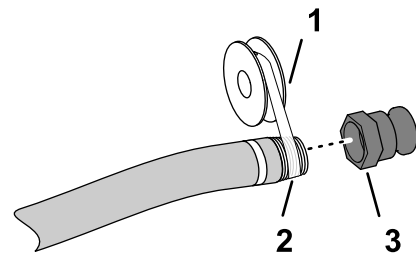

Figure 5
5. Apply PTFE thread sealant (Figure 5) to the threads of the fill hose fitting (1 inch—national pipe thread).
6. Thread the quick-disconnect coupling onto the fill hose and tighten it by hand (Figure 5).